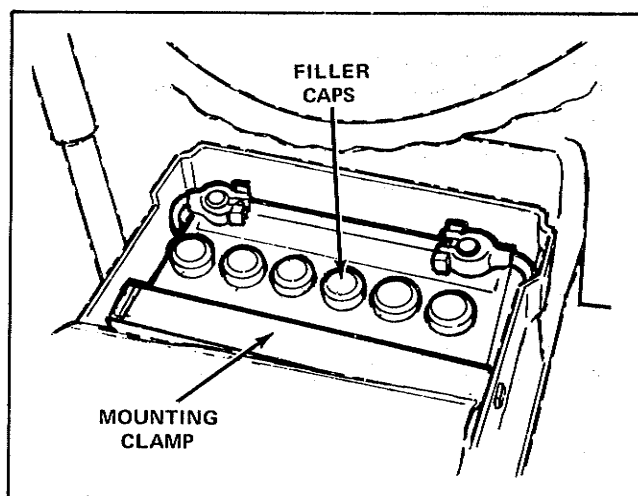

Figure 21
6. Check the Battery Water Level to insure it is maintained at the battery ring or mark approximately one-fourth inch above the plates. If water is needed, add distilled water just before charging to mix the solution. *Do not over fill the battery.* (See Figure 21)